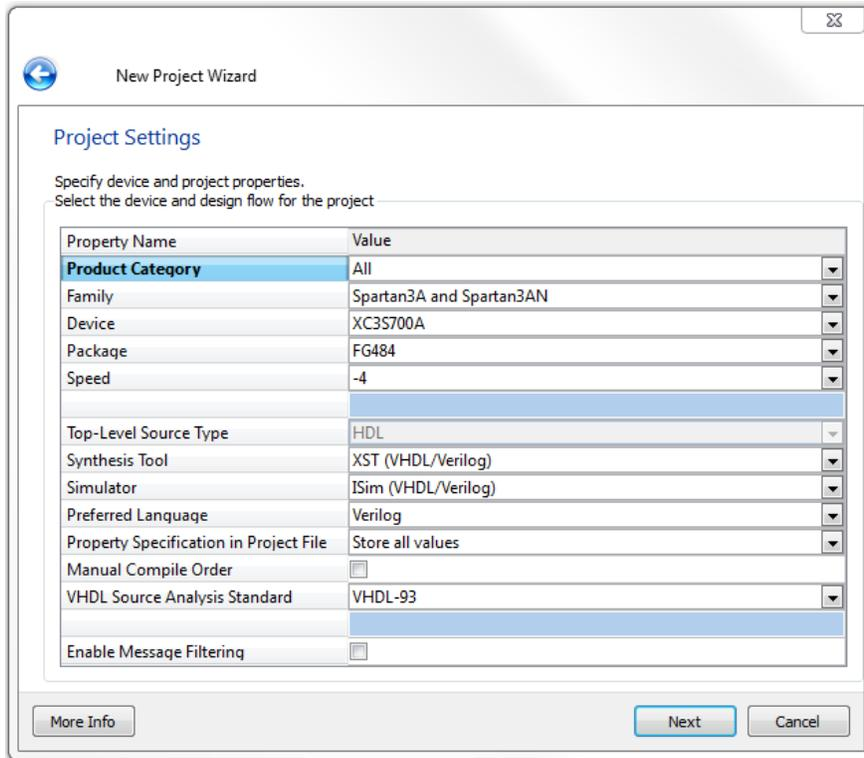

Figure 1
8. When the table is complete, your project properties should look like Figure 1.